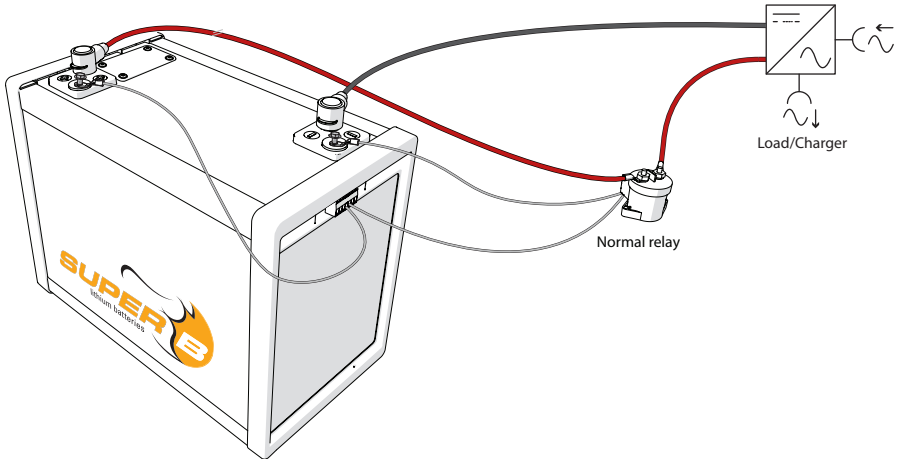

Figure 12. Securing the terminal covers.
4. Connect the - terminal of the battery. Do not connect the - terminal first as this may lead to short circuits (see figure 12).
6. Place the terminal covers over the terminals (see figure 12).